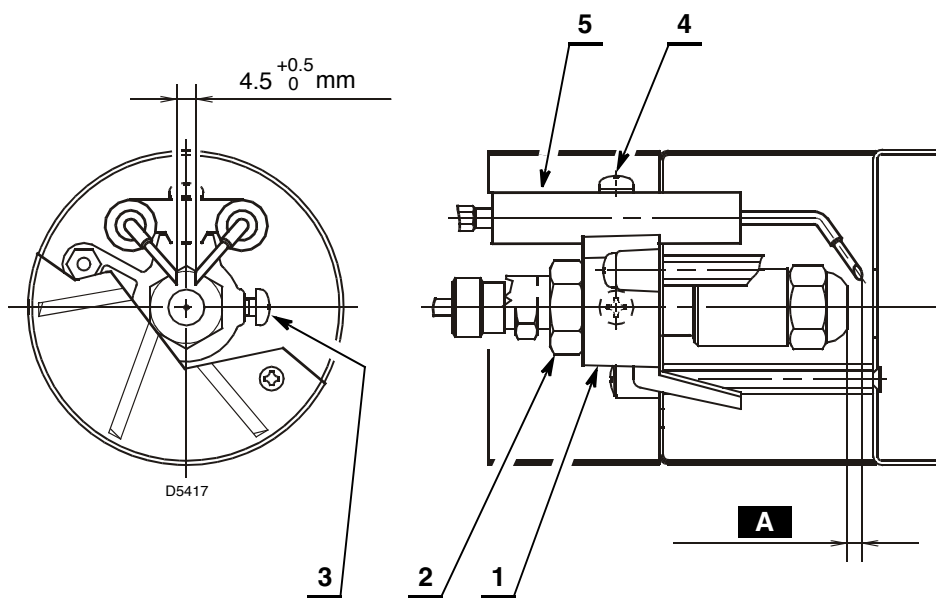

Fig. 22
- rest the diffuser disc-holder assembly 1) (Fig. 22) on the nozzle-holder 2) and block with the screw 3);